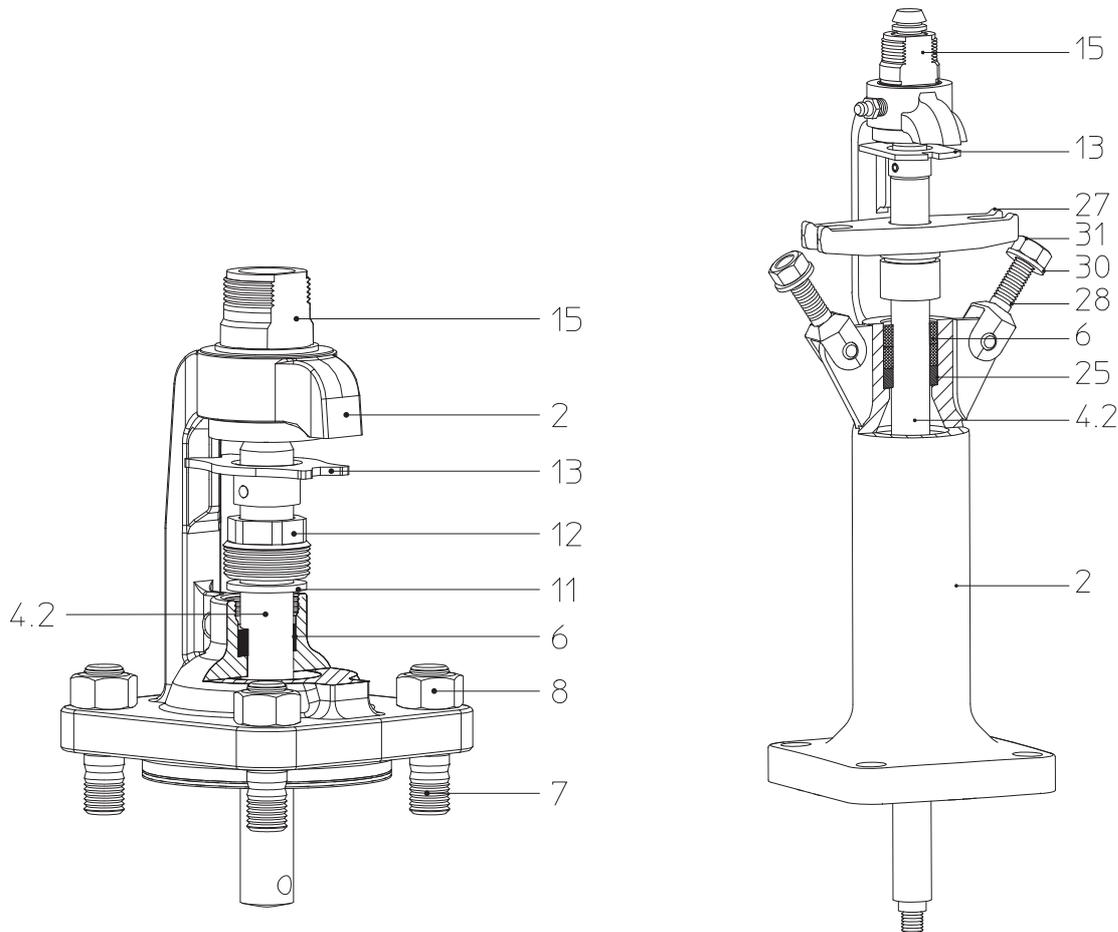

Fig. 11 FABA®-Plus:
If the stem (pos. 4.2) starts leaking, tighten the bolted gland (pos. 12) until leaking stops (Fig. 11). Replace bonnet at earliest opportunity!
Gland screw (pos. 12, Fig. 11) slack	Tighten gland screw (pos. 12, Fig. 11) until leakage stops; Replace bonnet at earliest opportunity!
If necessary, renew packing in stuffing box seal (pos. 6); Observe warnings (Fig. 12 - Fig. 11)!